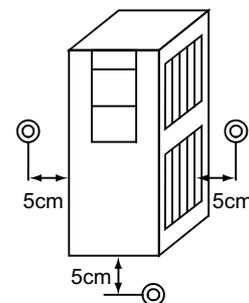

Fig.7.28 Measuring surrounding air temperature
- 1) Measure the temperature at the position shown in Fig.7.28.